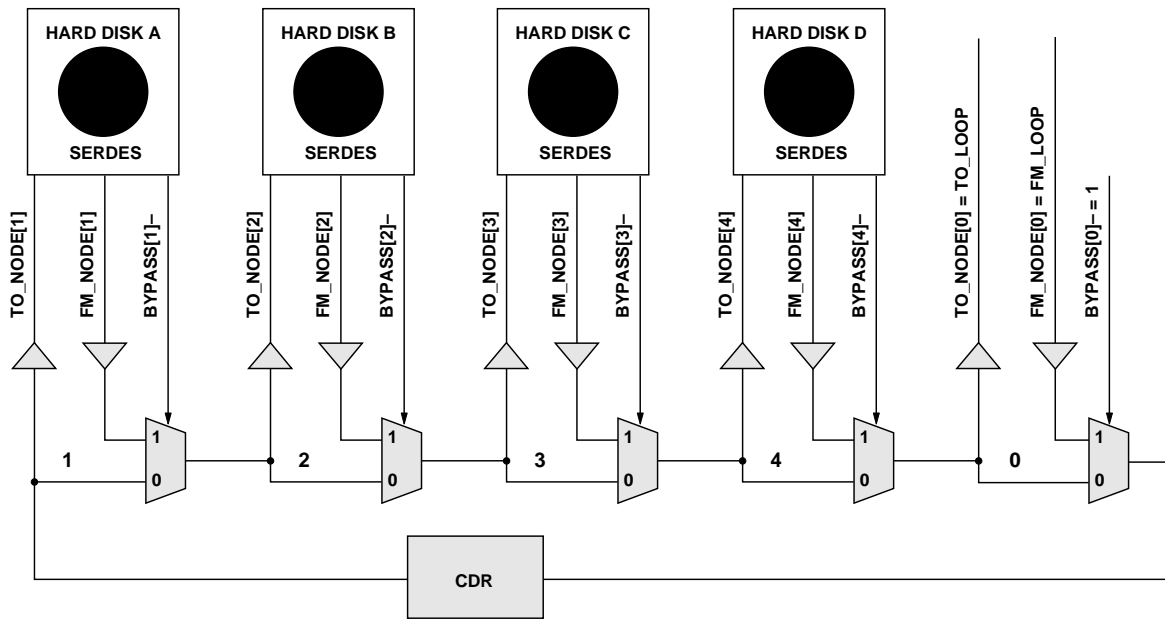
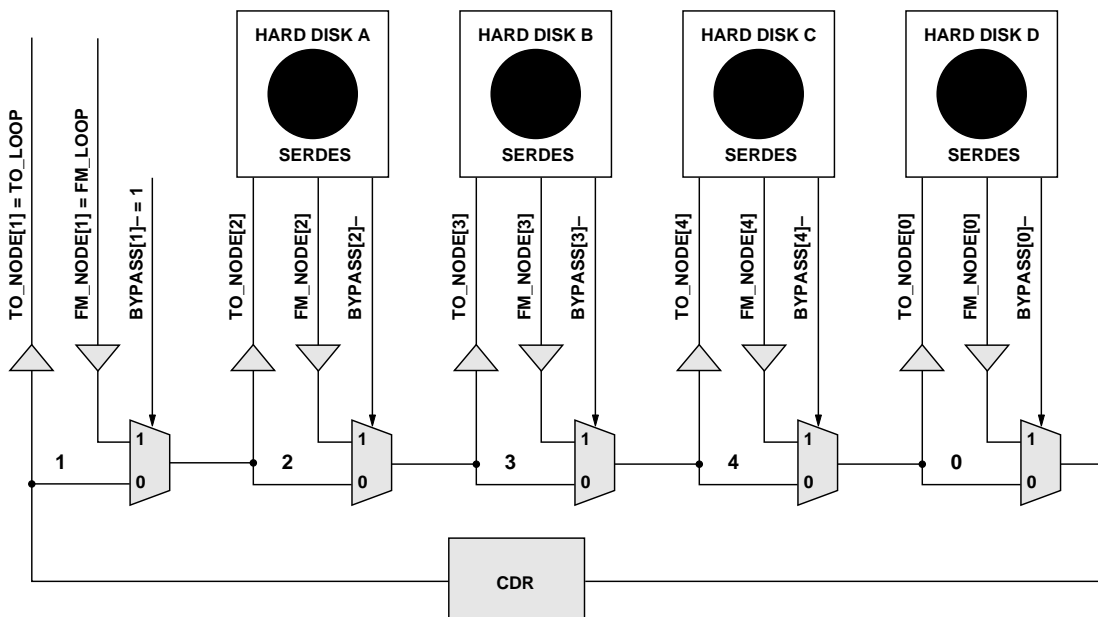

Figure 3. Connection diagram for CDR at first cell.
Figure 4. Connection diagram for CDR at last cell.
The HDMP-0452 design allows for CDR placement at any location with respect to the hard disk slots. For example, if the BYPASS[0]- pin is floating and hard disk slots A to D are connected to PBC cells 1 to 4 respectively (see Figure 3), the CDR function will be performed before entering the hard disk at slot A. To obtain a CDR function after slot D (see Figure 4), BYPASS[1]- must be floating and hard disk slots A to D must be connected to PBC cells 2,3,4, and 0 respectively. Table 2 shows all possible connections. For configurations where the CDR is before slot A, a Signal Detect (SD) pin shows the status of the signal at the incoming cable.
Table 2. Pin Connection Diagram to Achieve Desired CDR Location (see Figures 3, 4).